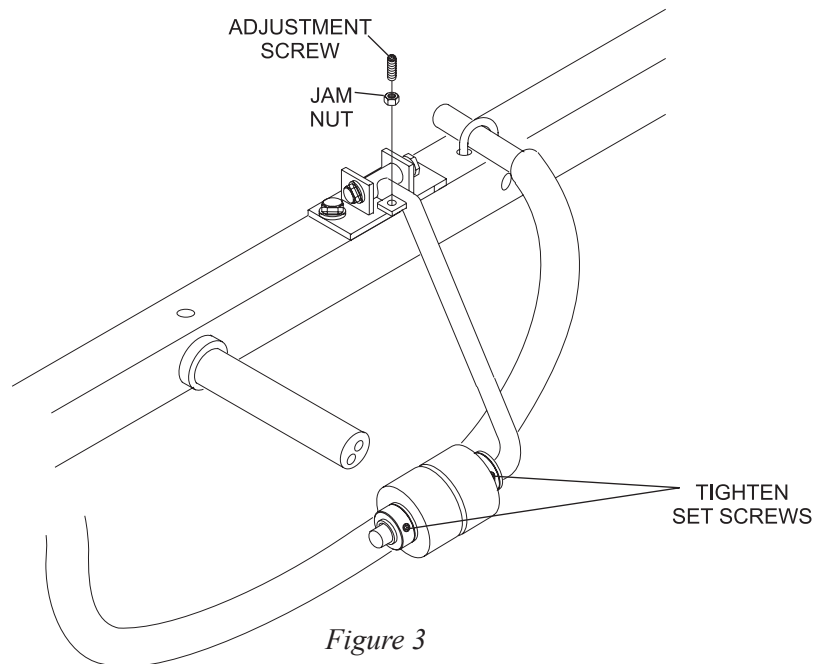

Figure 3
5. Using a 5/32" Allen wrench, tighten the setscrew in the collar closest to the 90 degree bend. Loosen and adjust the outer collar leaving a slight gap between the 2 flanged bronze bushings, then retighten. This will allow the wheels to act independent of one another. Refer to *Figure 3*.